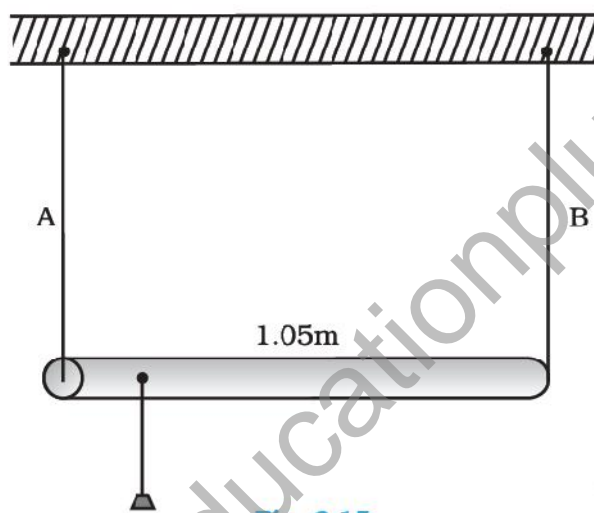

Fig. 9.15
9.18. A rod of length 1.05 m having negligible mass is supported at its ends by two wires of steel (wire **A**) and aluminium (wire **B**) of equal lengths as shown in Fig. 9.15. The cross-sectional areas of wires **A** and **B** are  $1.0 \text{ mm}^2$  and  $2.0 \text{ mm}^2$ , respectively. At what point along the rod should a mass  $m$  be suspended in order to produce (a) equal stresses and (b) equal strains in both steel and aluminium wires.